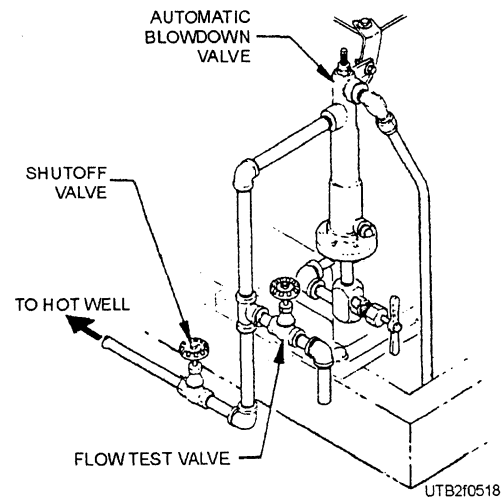

Figure 5-18.—Suggested automatic blowdown valve discharge piping.
- To permit periodic checking of the automatic blowdown valve adjustment, you should install a shutoff valve and a flow test valve, as shown in figure 5-18. Pipe the discharge from the shutoff valve to the automatic blowdown connection on the hot well.